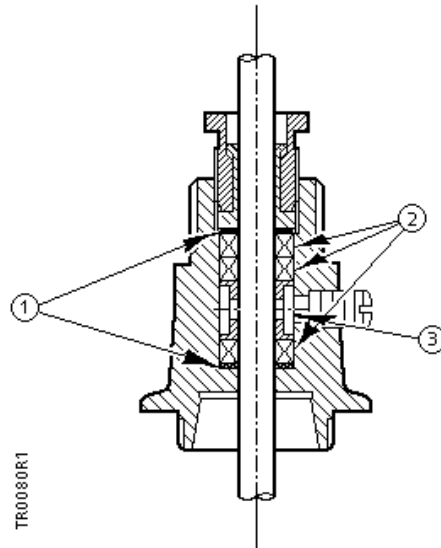

Figure 8. Solid Ring Packing Assembly. See Table 9.
See Figure 8 for the location of the parts used in this procedure.
Table 9. Solid Ring Packing Parts. See Figure 8.
3. With the valve stem held in the closed position, carefully place one white ring, one black ring, the packing spacer, two black rings, and one white ring over the stem in the order shown in Figure 8. Individually tamp each packing ring into the bonnet as far as possible.